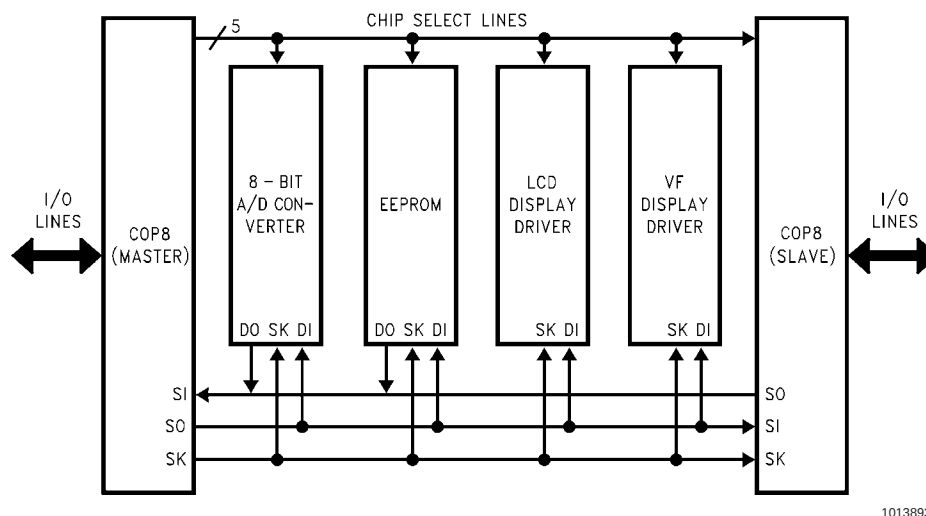

FIGURE 29. MICROWIRE/PLUS Application
MICROWIRE/PLUS is a serial SPI compatible synchronous communications interface. The MICROWIRE/PLUS capability enables the device to interface with MICROWIRE/PLUS or SPI peripherals (i.e. A/D converters, display drivers, EEPROMs etc.) and with other microcontrollers which support the MICROWIRE/PLUS or SPI interface. It consists of an 8-bit serial shift register (SIO) with serial data input (SI), serial data output (SO) and serial shift clock (SK). Figure 29 shows a block diagram of the MICROWIRE/PLUS logic.
enabled, an interrupt is generated when eight data bits have been shifted. The device may enter the MICROWIRE/PLUS mode either as a Master or as a Slave. Figure 29 shows how two microcontroller devices and several peripherals may be interconnected using the MICROWIRE/PLUS arrangements.